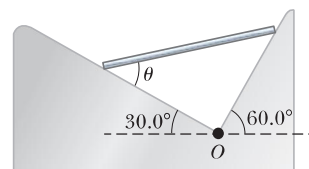

Figure P12.68
68. A uniform rod of weight F_g and length L is supported at its ends by a frictionless trough as shown in Figure P12.68. (a) Show that the center of gravity of the rod must be vertically over point O when the rod is in equilibrium. (b) Determine the equilibrium value of the angle θ . (c) Is the equilibrium of the rod stable or unstable?